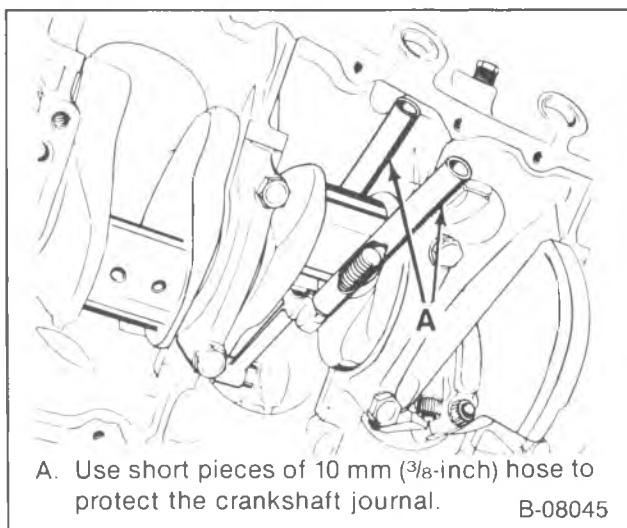

Figure 14—Removing the Piston and Connecting Rod
- Attach two short pieces of 10 mm ($\frac{3}{8}$ -inch) hose to the connecting rod bolts (figure 14). This will protect the crankshaft journal during removal.